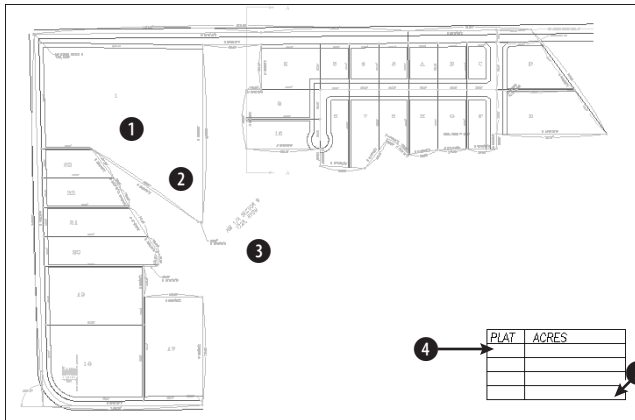

Figure 13-19: The plat drawing
2. Save the file as `ab13-05.dwg` in your AutoCAD Bible folder. This is a plat drawing, as shown in Figure 13-19.
3. Choose Multiline Text from the Draw toolbar. At the prompts, pick points ① and ② in Figure 13-19. The Multiline Text Editor opens. In the Text Height box, change the height to 12.5. In the main editing box, type the following:
Specify first corner: Pick ④ in Figure 13-19.
Specify opposite corner or [Height/Justify/Line spacing/Rotation/Style/Width]: Pick ⑤ in Figure 13-19.
9. Open Windows Explorer (Usually Start ⇨ Programs ⇨ Windows Explorer). Find `ab13.txt` on your CD-ROM. Move the Windows Explorer window so that you can see both `ab13.txt` and your AutoCAD screen. Drag `ab13.txt` from the Windows Explorer window to  in Figure 13-19. If necessary, pick a grip, press the Spacebar once to choose the Move option and click at the proper location.